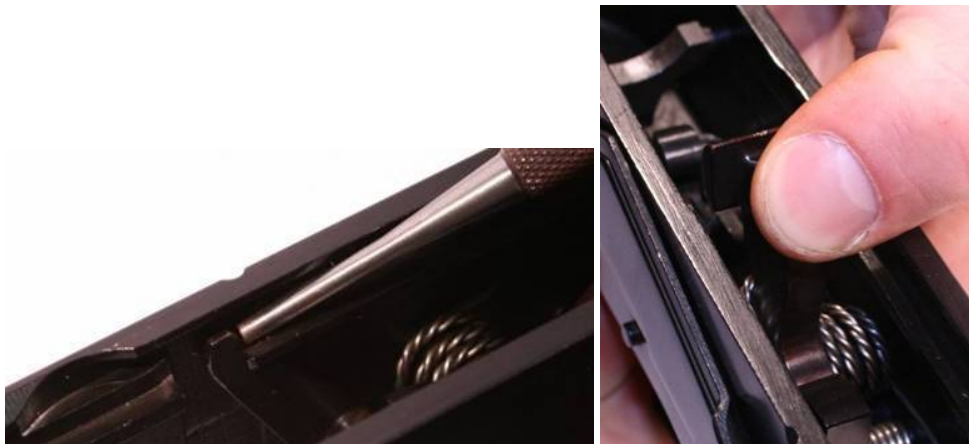

Figure 15. Depressing the Arm of the Auto Sear and Riding the Hammer Forward.
- b. Using a punch, push the arm of the auto sear, against the right wall of the receiver, forward until an audible click is heard. Using a finger to ride the hammer forward, pull the trigger to release the spring tension on the hammer. Refer to Figure 15.